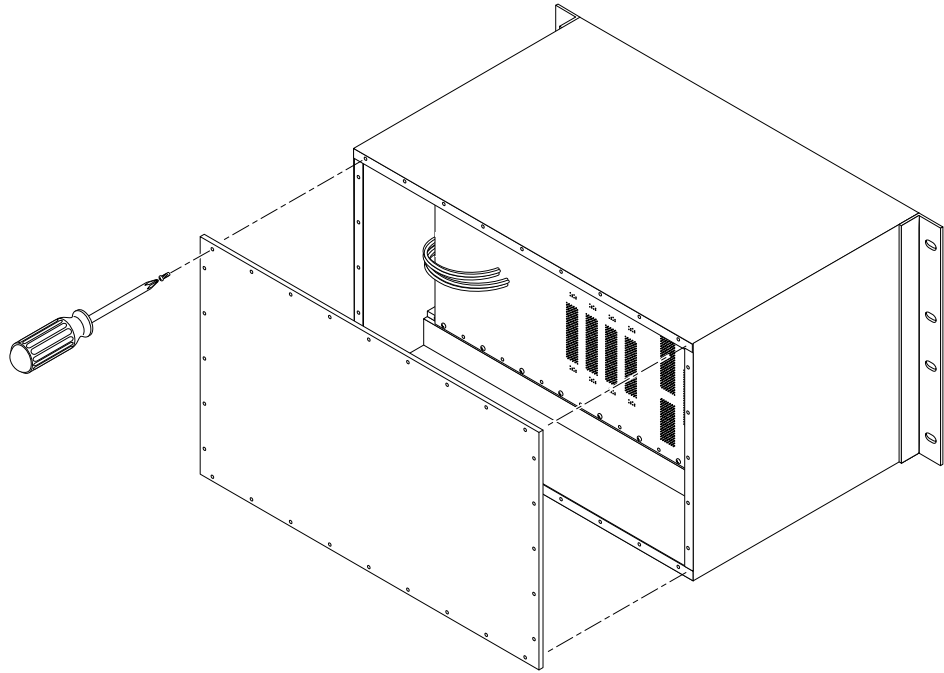

FIGURE 4-6 Replacing the Back Panel
6. Loosen and remove all screws (12) securing back panel to chassis, then remove the back panel (FIGURE 4-6).